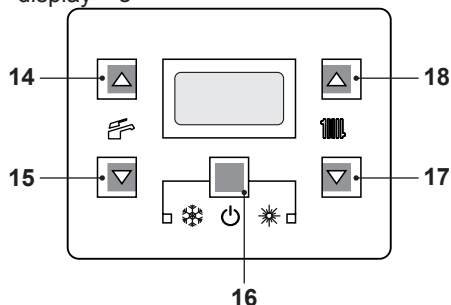

Fig. 7.11
- Press the 16 key for 2 seconds until both  and  symbols appear on the display Fig. 7.11.
- Switch off the boiler by pressing the 16 (Fig. 7.11) key for 2 seconds until the   symbol appears on the LCD display (Fig. 7.10).
Press the reset key on the boiler control panel 16 (Fig. 7.11) to reset its functioning.